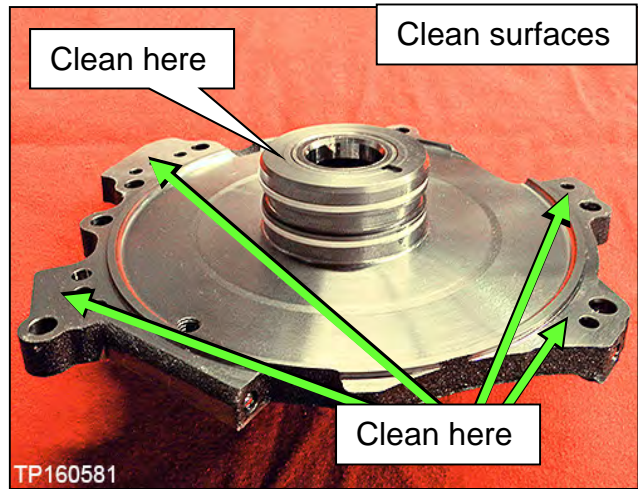

Figure 118
- a. Clean the dummy cover surfaces that contact the CVT case and thrust bearing (Figure 118).